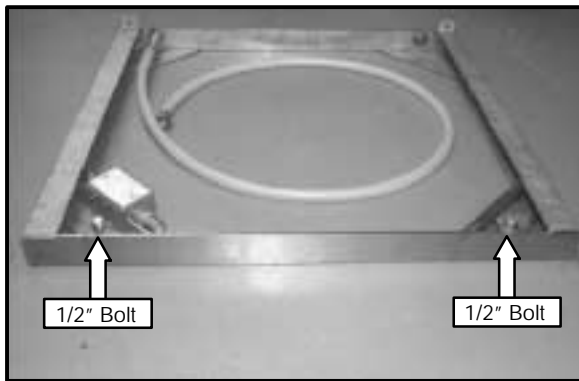

Figure 6
2. Remove the two 1/2" bolts from the front of the installation base. See Figure 6.